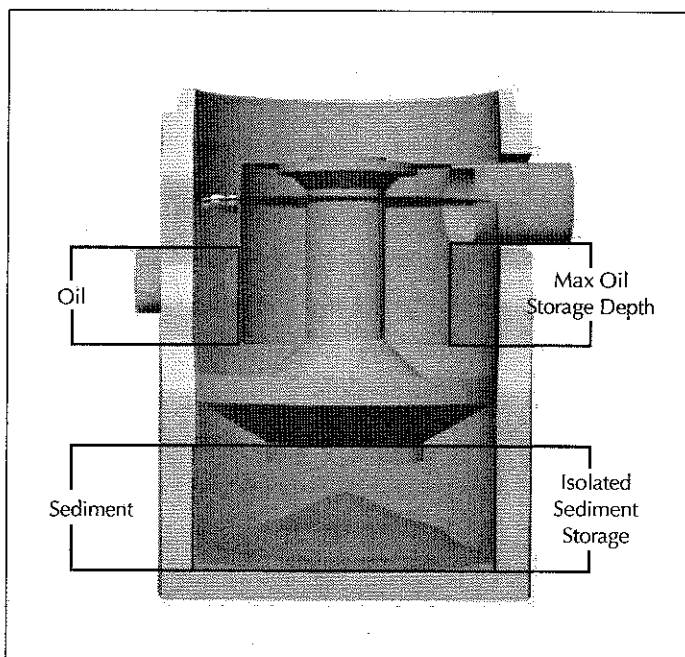

Figure 1: Pollutant storage volumes of the Downstream Defender
1. Refer to Downstream Defender Clean-out Detail (Fig. 1) for measurement of depths.